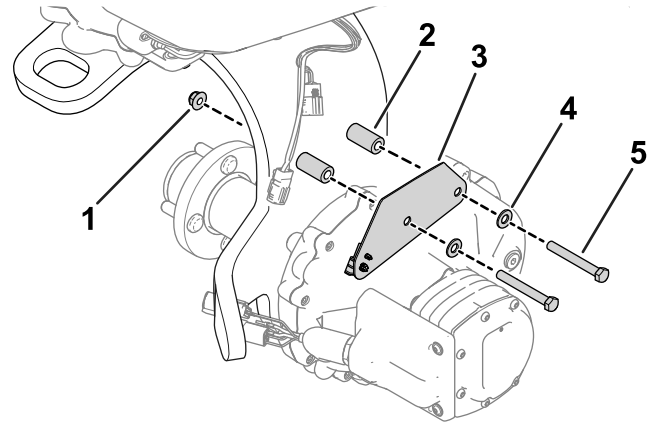

Figure 4
2. Use the previously removed hardware to secure the new harness bracket to the caster fork (Figure 4).